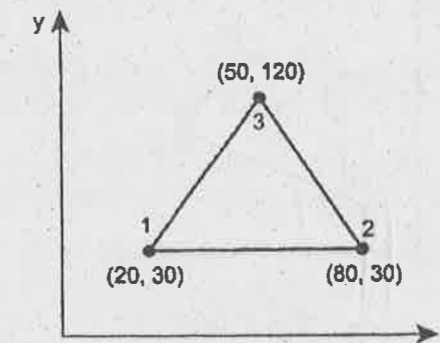

Fig 13(a)
13. (a) Determine the stiffness matrix for the CST Element shown in Fig 13(a). The coordinates are given in mm. Assume plane strain conditions. $E = 210 \text{ GPa}$, $\nu = 0.25$ and $t = 10 \text{ mm}$. (16)